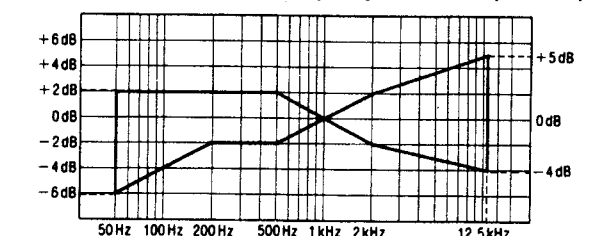

Fig. 9
6. Repeat steps 4 and 5 above for CrO₂ blank test tape (QZZCRX) and Metal blank test tape (QZZCRZ), in these cases raising the upper end of the test signal frequency range to 12.5kHz. Verify that the signal levels at the test frequencies fall in the ranges specified in Fig. 9 with respect to the reference signal level.